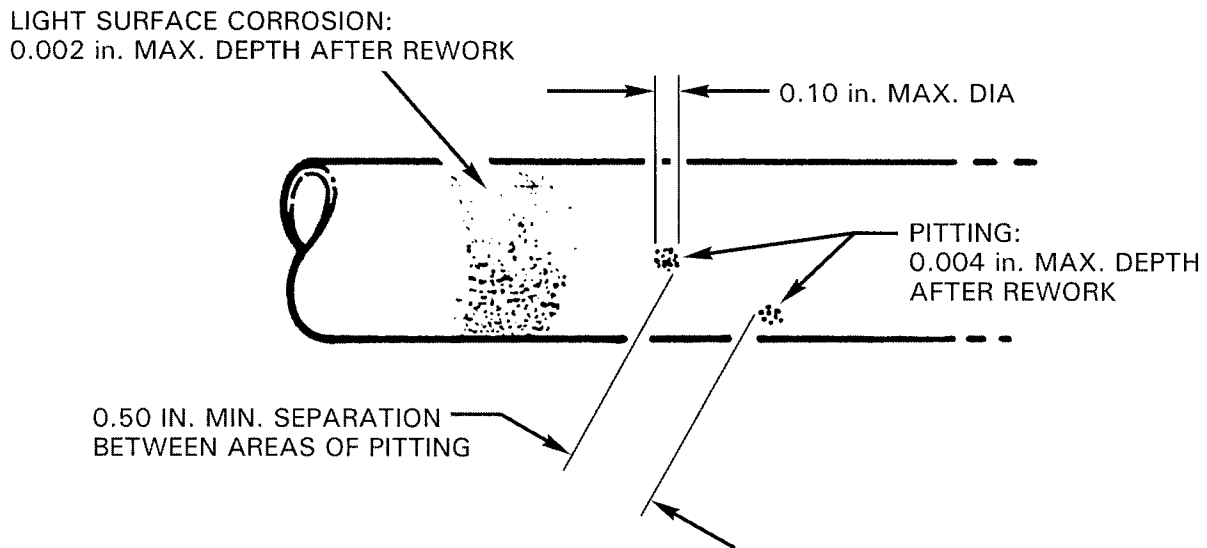

FIGURE 2-13 FRAME CORROSION AND REPAIR LIMITS
1. For large areas of corrosion, remove frame and strip paint using a Section 1.410 approved paint stripper to determine full extent of corrosion. If corrosion exceeds Figure 2-13 limits, replace frame.
3. Polish out corrosion with 320-grit or finer wet-or-dry sandpaper. Measure frame member diameter at polished area(s). Compare with measurement(s) from step 2, and verify polish depth is within Figure 2-13 limits.